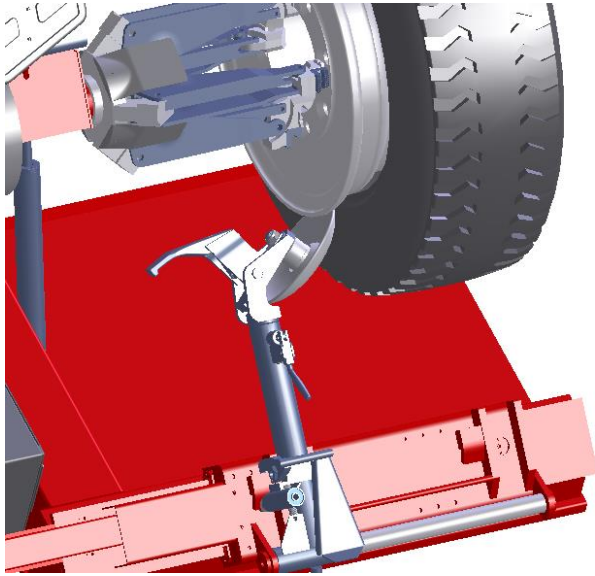
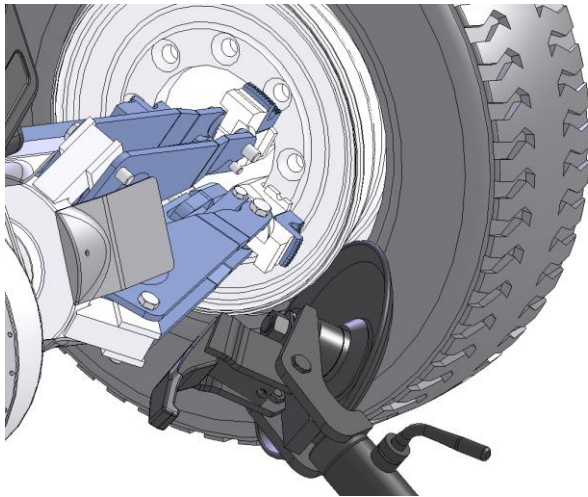

Fig. 14
Fig. 16
- Break the bead at the front part of the tyre and pushing on the bead, lubricate the rim flange and the bead with suitable grease (Fig. 14).Repeat the operation on the back.
- Clamp the wheel on the self-centering chuck and raise it until the rim flange touches the bead breaking tool. Using the control and selector deflate the tyre and begin the bead breaking operation (Fig. 16 or Fig. 14). Use the pedal and selector to gradually advance the bead breaking roller turning the spindle continuously.